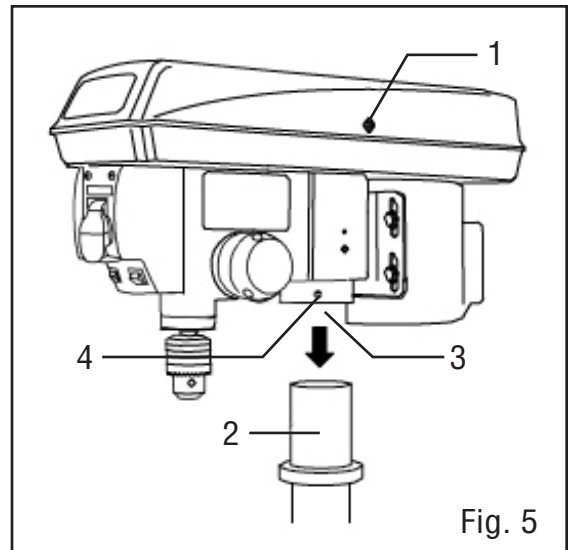

Fig. 5
## DRILL PRESS HEAD TO COLUMN (FIG. 5)
1. Carefully lift the drill press head assembly (Fig. 5 - 1) and position it over the column (Fig. 5 - 2).
2. Place the mounting opening (Fig. 5 - 3) on the drill press head over the top of the column. Make sure the drill press head is seated properly on the column.
4. Tighten the set screw (Fig. 5 - 4) using the included hex wrench.